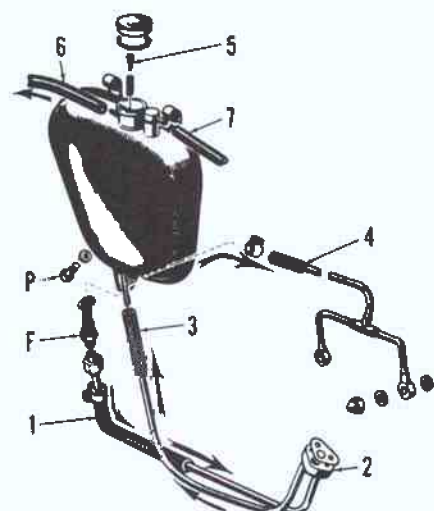
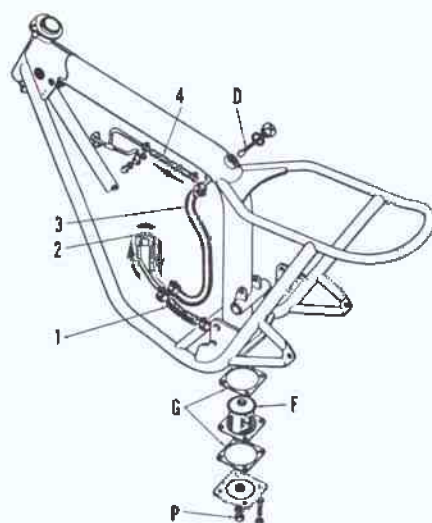

Fig. TM4-9—Drawing of engine reservoir and lines typical of 650cc models.
Fig. TM4-9A—Drawing of engine oil lines typical of 750cc models. Frame tube is reservoir.
above 90 degrees F.; SAE 30 oil from 32 degrees F. to 90 degrees F. Oil level should be maintained 1½ inches (4cm) below filler cap opening of reservoir. Oil reservoir is located on right side under the seat. Remove filter (F—Fig. TM4-9) from reservoir to drain oil and clean filter. The oil should be drained, filters cleaned and reservoir should be filled with new oil every 1500 miles.
On all models, installation of hoses to and from the reservoir is important. Refer to Fig. TM4-9 and Fig. TM4-9A. Oil is drawn from the reservoir to the pressure pump through hose (1). The scavenger pump delivers oil back to the reservoir from the engine through hose (3). Oil pumped by the scavenger pump is also used to lubricate the rocker arms via hose (4). On some models, oil is metered by valve (5—Fig. TM4-9) and delivered to the rear chain through hose (6). The engine will probably be damaged because of lack of lubrication if hoses are attached incorrectly.